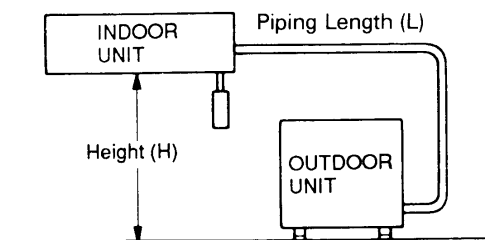

Fig. 1
- If the pipe length will exceed more than 50 ft. additional refrigerant charge is necessary. (Refer to the below table and Fig. 1.)